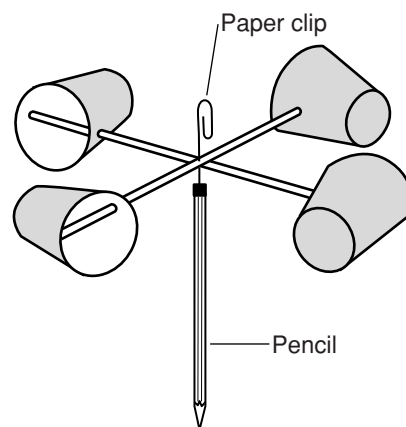

Figure 4.
8. Push the end of the clip into the eraser of a pencil (see Figure 4).